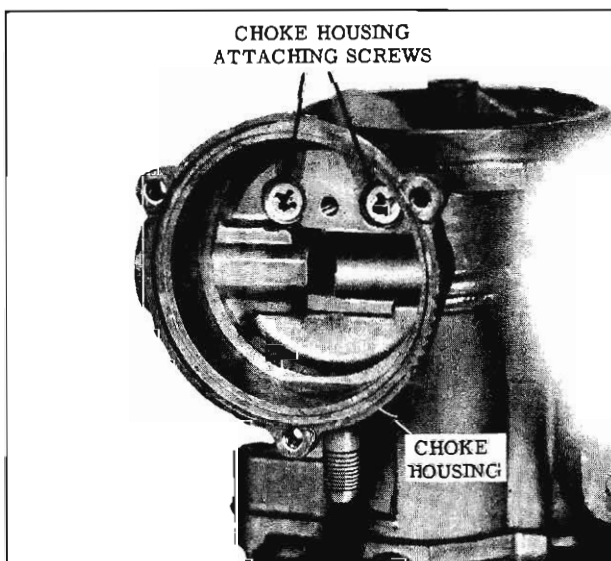

Fig. 4-131 Choke Housing Attaching Screws
7. Remove two choke housing attaching screws and remove choke housing. (Fig. 4-131)